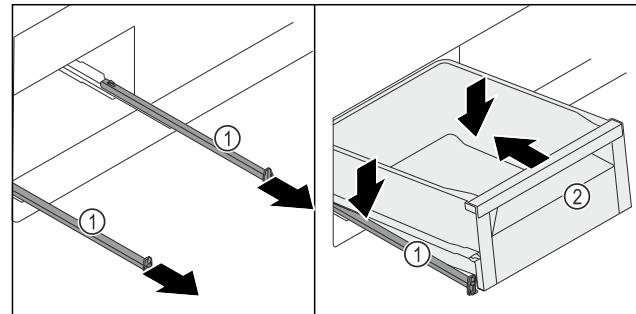

Fig. 135
- ▶ Pull out the rails Fig. 135 (1).
- ▶ Hold the rails Fig. 135 (1) firmly and place the drawer Fig. 135 (2) diagonally on the rails Fig. 135 (1) from above.
- ▶ Slide the drawer Fig. 135 (2) backwards on the rails Fig. 135 (1) as far as it will go.